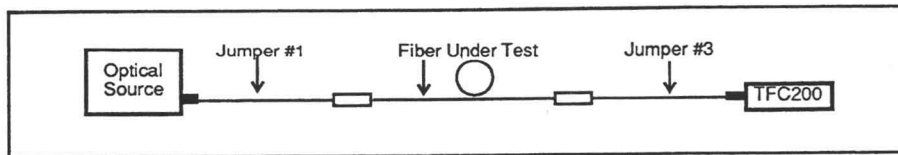

Fig. 2-3. Test Fiber Setup.
- 5) Connect the TFC200 to the other end of the fiber under test via its test jumper (#3) (see Fig. 2-3).